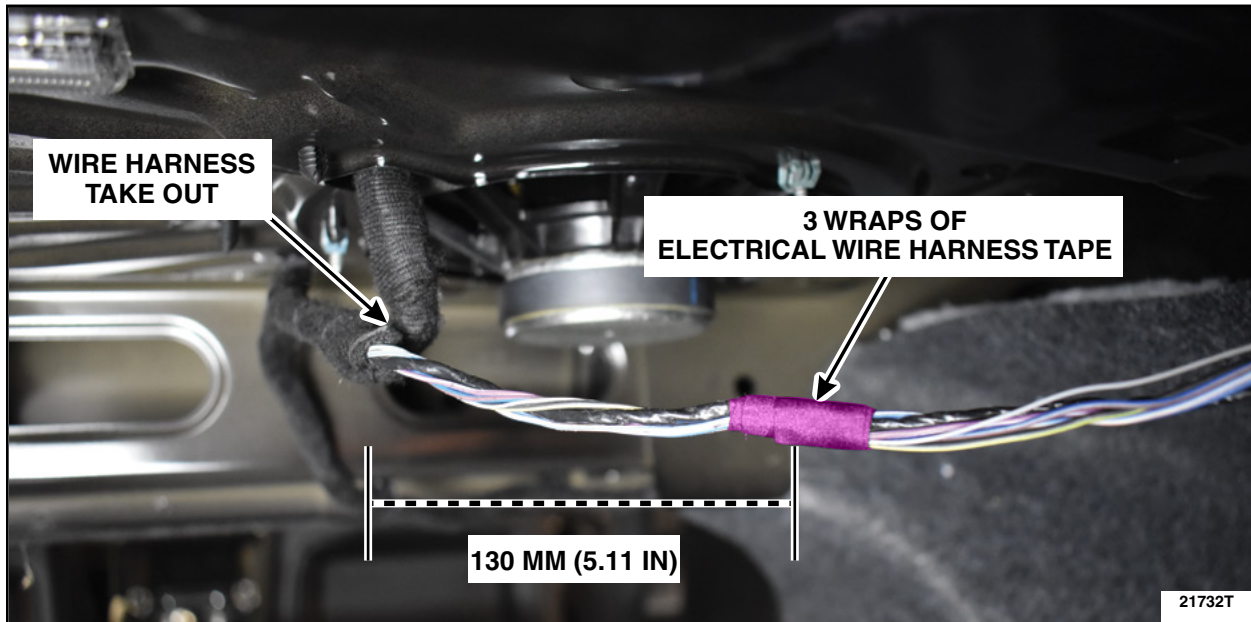

FIGURE 19
28. Measure 130 mm (5.11 in) from the wire harness take out. Apply 3 wraps of Coroplast® 837 or equivalent electrical wire harness tape around the wiring harness. See Figure 19.